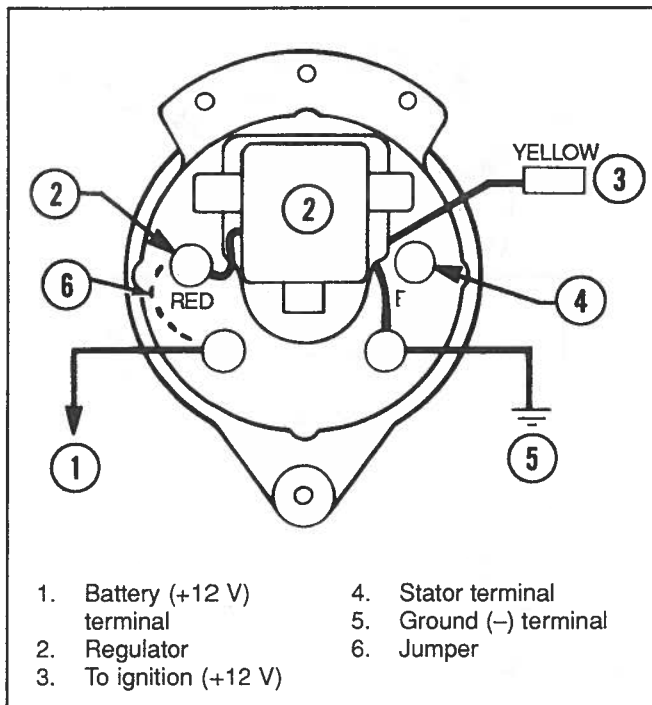

Figure 6-95. Battery Voltage Check
1. With the engine stopped, turn the ignition switch to ON. Connect a voltmeter to the output (+) terminal and the ground (–) terminal (Figure 6-95). This will check battery voltage.
2. With the ignition switch still ON, connect the voltmeter to the regulator terminal and ground (–) terminal (Figure 6-95). Regulator voltage should range between 1.5-3.0 V.
5. Connect a voltmeter to output (+) terminal and ground (–) terminal (Figure 6-95). If a reading ranging from 13.5-15.0 V is obtained, the diode trio is defective (open). Remove alternator for repair. If 13.5-15.0 V is not indicated, remove the jumper wire and test regulator.